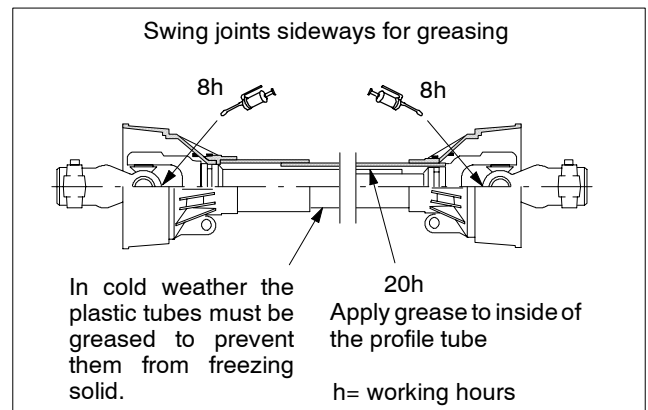

Fig.12.The lubrication spots and intervals of the P.T.O shaft.
- Lubricate the PTO shaft prior to operating and with intervals shown in fig. 12.